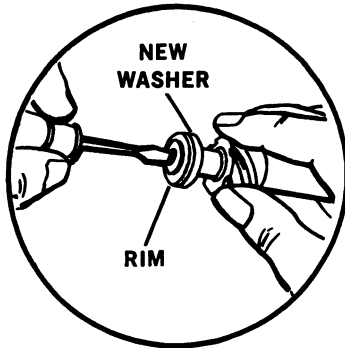

Fig. 5
4. Put in new washer and replace screw. (Fig. 5)